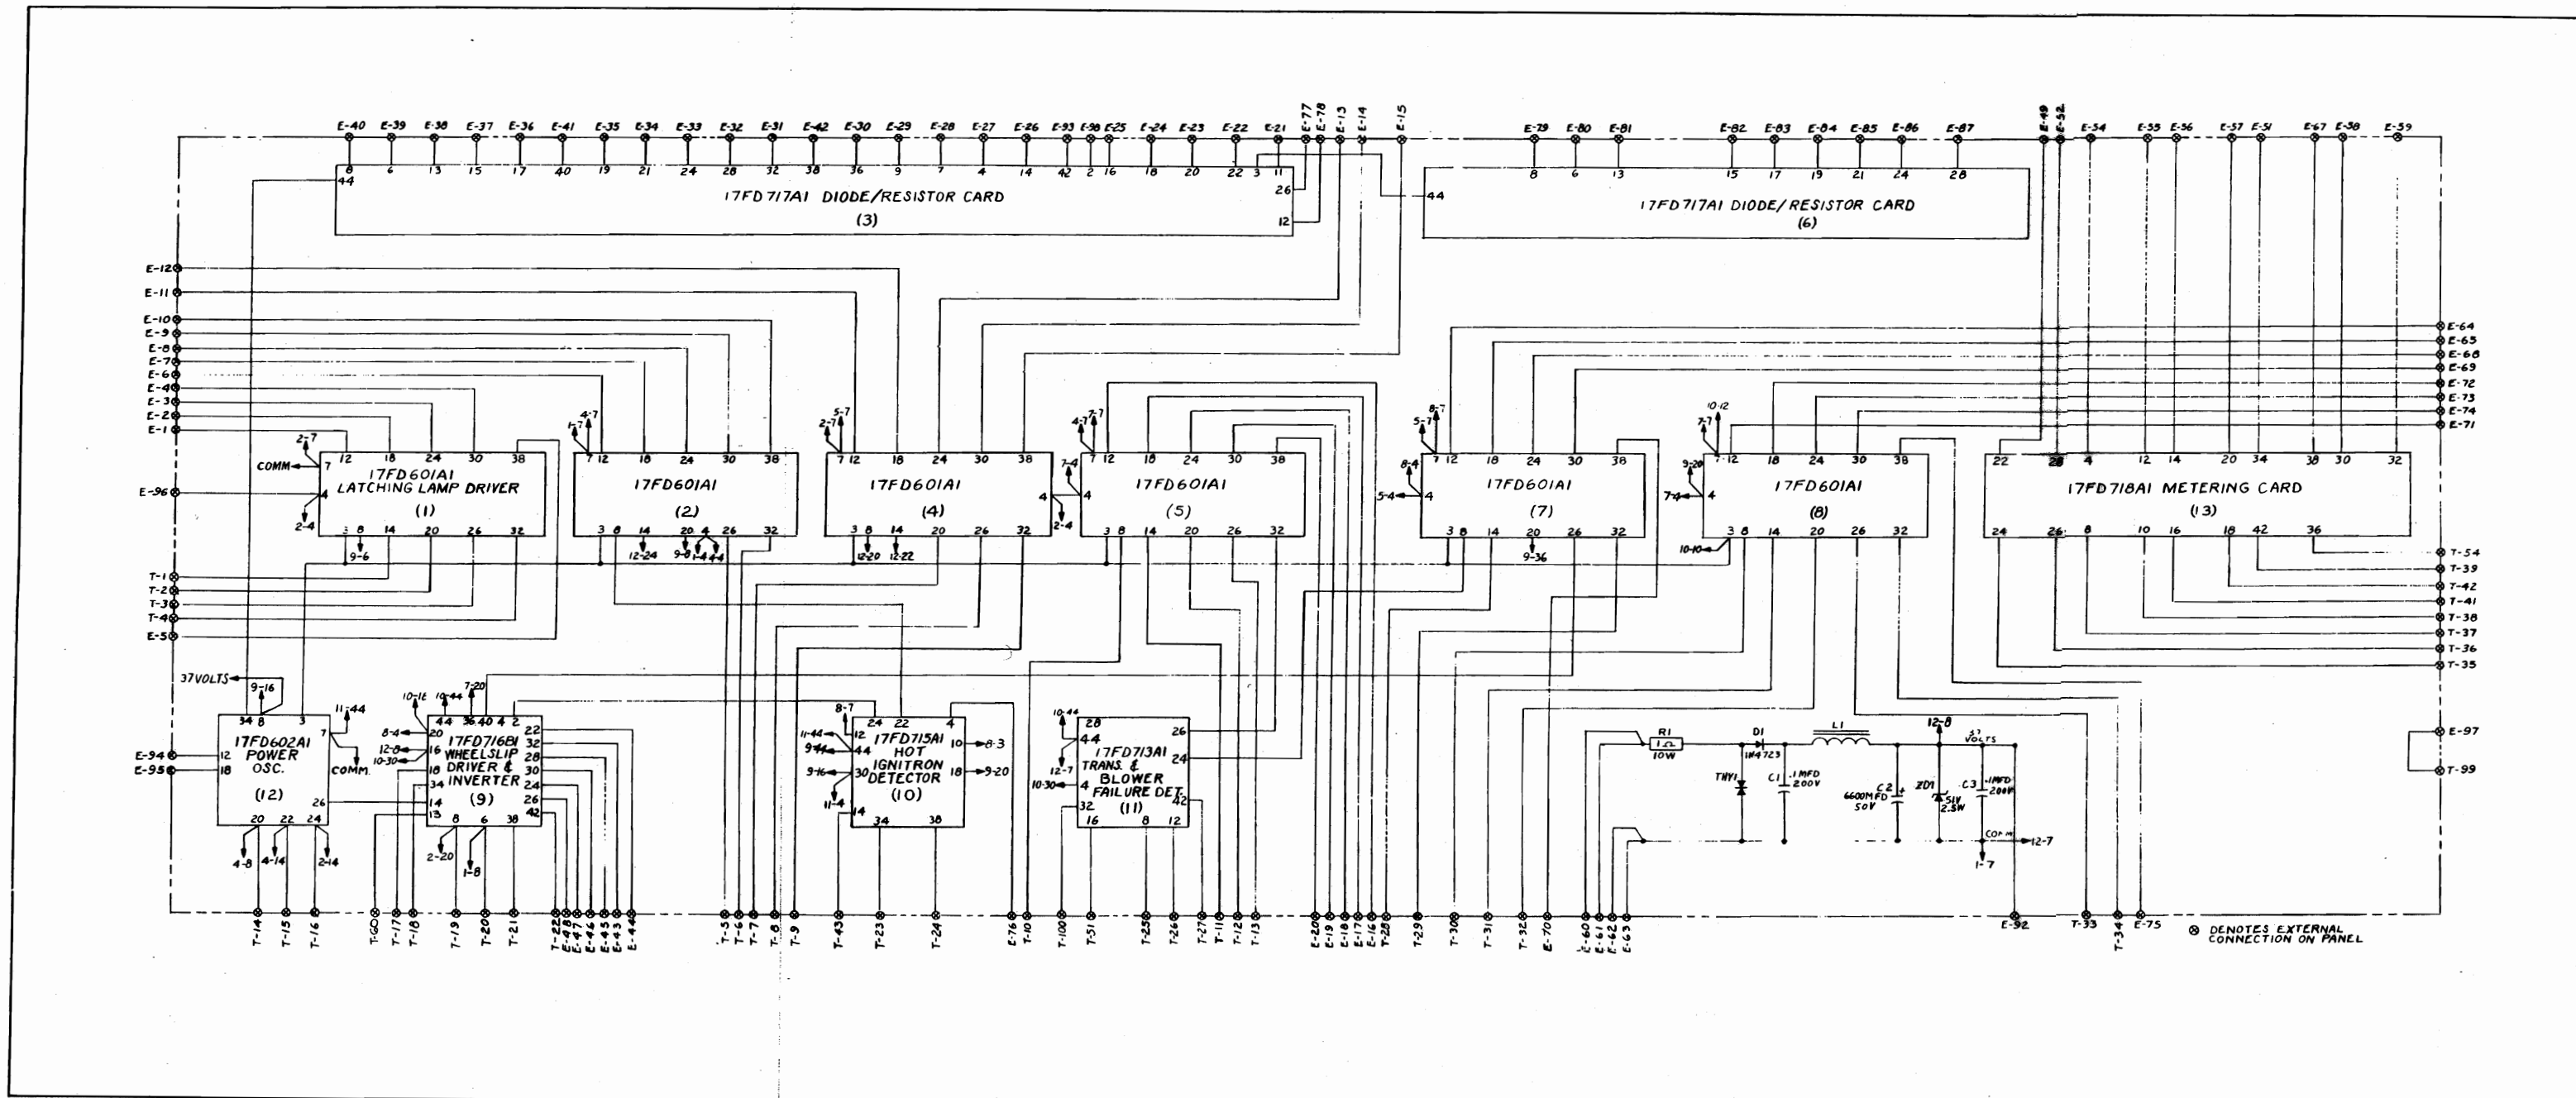

FIG. 13-65. INTERCONNECTION DIAGRAM FL134 PANEL (41R965639).
##### Operational Check (See Fig. 13-65)
5. Install the terminal board (12) onto the P.C. board (14), and torque the two sets of mounting hardware (19, 20, 21, 22) to 22-27 in.-lb.
6. Install the P.C. board (14) onto the panel (26), and torque the two sets of mounting hardware (19, 20, 21, 22) to 22-27 in.-lb.
**NOTE:** Insure that the spacers (18) are in position.
7. Install the connector (11) onto the weldment (1), and tighten the four guide pins (25).
8. Install the terminal block (7) and the card guide (4) onto the weldment (1). Torque the two sets of bottom mounting hardware (19, 20, 21, 22) to 22-27 in.-lb., and the two sets of top mounting hardware (20, 21, 22) to 14-17 in.-lb.
9. Wire the panel per the Interconnection Diagram, Fig. 13-65.
10. Plug the cards (27 thru 39) into their respective slots on the weldment (1). Insure the cards are fully seated in their sockets.
11. Install the covers (5, 6) onto the weldment (1), and torque the mounting hardware (19, 20, 21, 22) to 22-27 in.-lb.
12. Install the retaining bar (2) on the weldment (1) and tighten the stud (8).